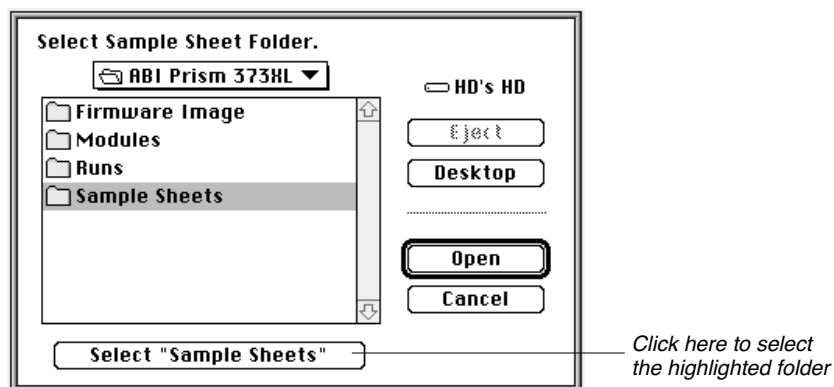

Figure 5-4. Folder selection dialog box
2. Click the button showing the folder's path name to display a dialog box (Figure 5-4).
3. Find the new location and click the Select button at the bottom of the file selection dialog box (Figure 5-4).